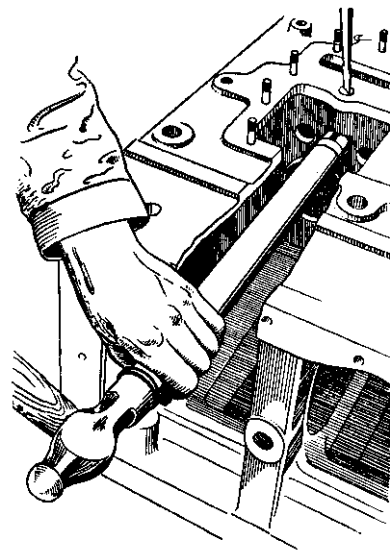

Fig. 10
- Take out the countersunk headed locating screw. This is clearly shown on Fig. 10.
Fig. 10 shows a 'cut away' view of the housing with the bush being driven into position with tool No. 8224/1.IW.